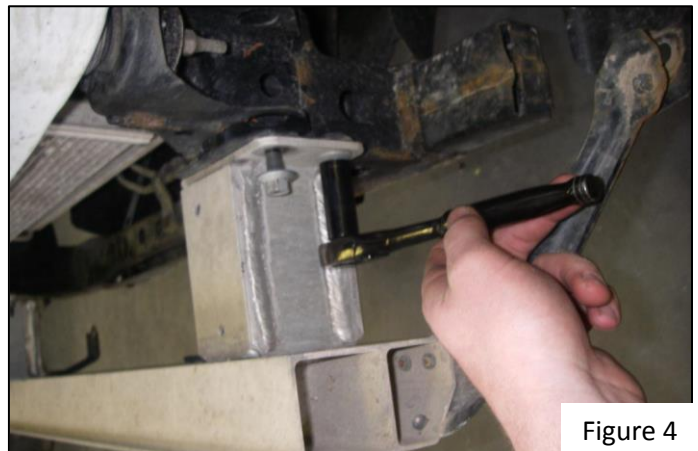

Figure 4
12. You will now need to remove the bumper sub-assembly by removing 6 nuts. See **Figure 4** below. Make sure to save these 6 nuts, as you will need them to complete your bumper installation.